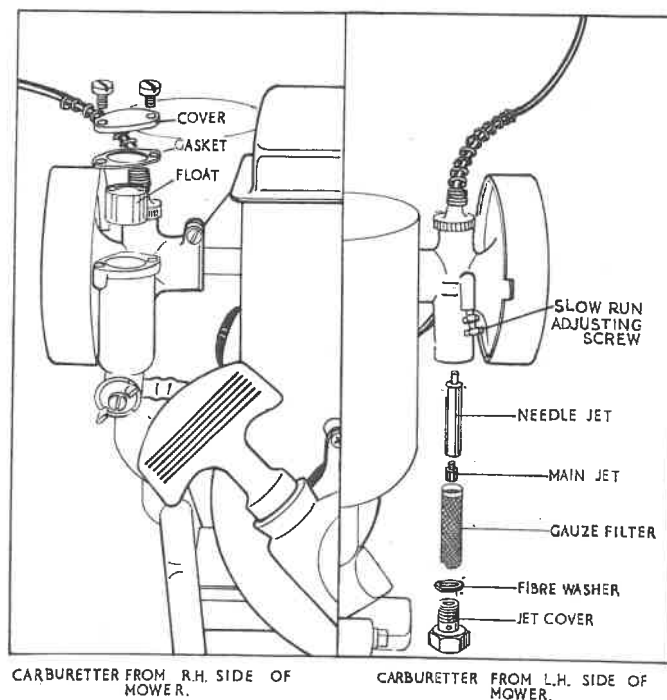

Fig. 17
- 3 Check that the carburettor jet is not blocked. Remove the cover nut (Fig. 17) at the carburettor base and take out the gauze filter. Wash this filter out in clean petrol. The jet can now be removed by unscrewing but do not attempt to clear this with fine wire or a pin. Blow through it to clear any obstruction.